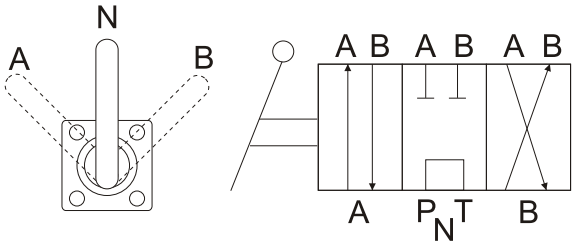

Fig. 3.2
3.2 Manual Control Valve (Fig.3.2)